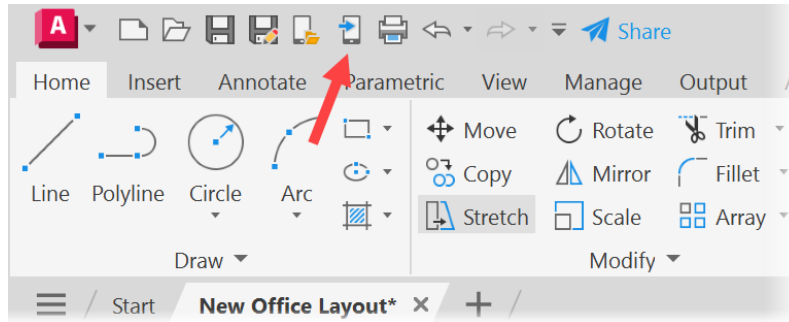

Figure 16.1: The SAVETOWEBMOBILE icon on the QAT
1. The **SAVETOWEBMOBILE** command is conveniently located at the top left of the QAT, as shown in *Figure 16.1*. You may be asked to install a driver file when you click on it for the first time. Make sure this is installed. It will install very quickly and won't take long.